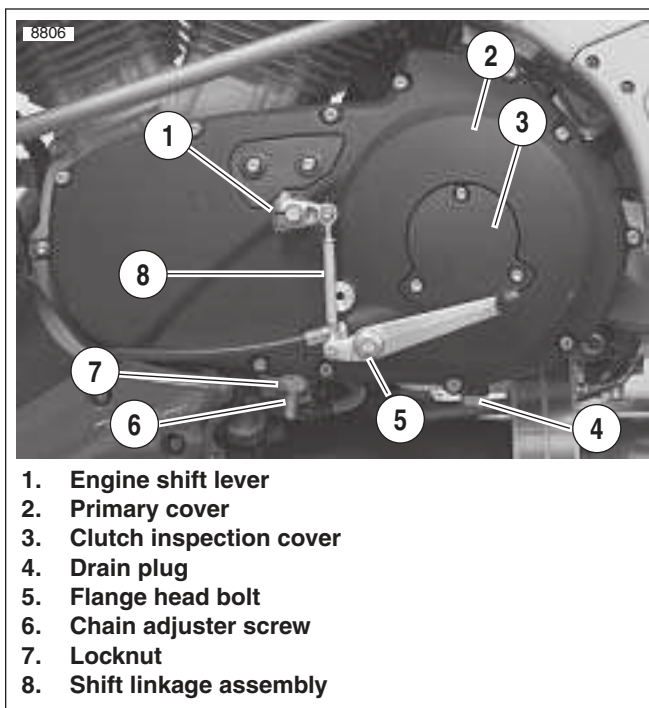

Figure 6-8. Installing Shift Linkage
12. See Figure 6-8. Install rubber washer and engine shift lever assembly (1).
13. After applying LOCTITE 272, install flange bolt (5) and shift pedal to primary cover, and tighten to 22-24 ft-lbs (30-32.5Nm).
15. If the shift linkage assembly (8) was removed for any reason, apply Loctite 272 to fasteners and tighten to 36-60 **in-lbs** (4-6.8 Nm). Adjust to rider comfort.